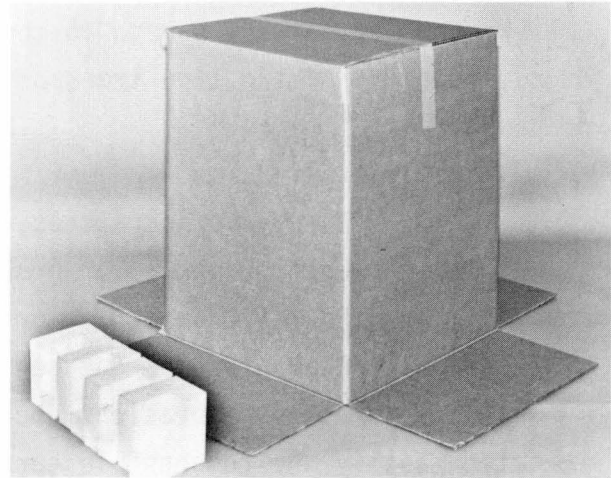

FIGURE 2-3
4. Turn carton over on top which is now open. (See Figure 2-3.)